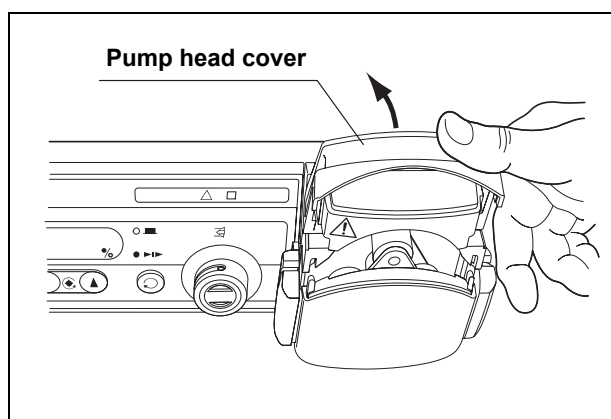

Figure 4.13
1. Rotate the pump head cover upward to open the head cover (see Figure 4.13).